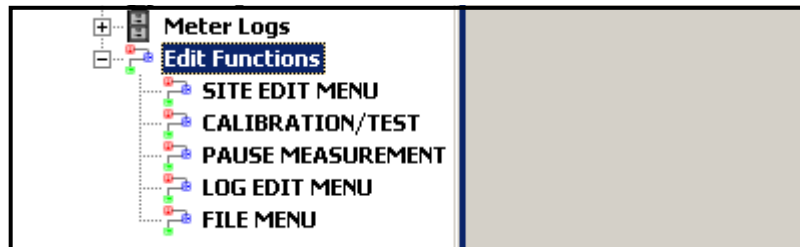
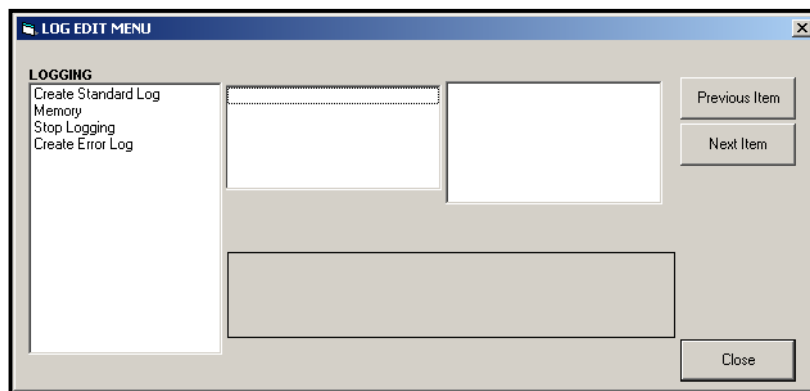

Figure 10: Edit Functions Menu for XMT868i with Logging Card
Figure 11: The *Log Edit Menu* Window
To create *Figure 11*, a new meter log, complete the following steps:
1. From the *New Meter Browser* in PanaView, expand the network tree and open the *Edit Functions* option (described on page C-6 of Appendix C, *Programming the XMT868i Using PanaView*). The menu will appear similar to *Figure 10*.
2. Double-click on the *Log Edit Menu*, as shown in *Figure 10*. The window appears similar to *Figure 11*.